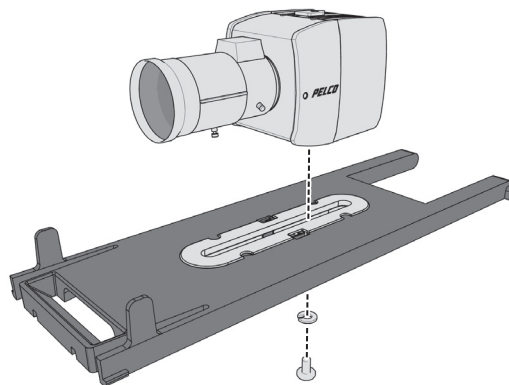

Figure 4. Attaching the Camera to the Sled
13. Attach the camera to the sled with the 1/4-20 x 3/8-inch Phillips screw (supplied) and the 1/4-inch split lock washer/washer. (Refer to Figure 4.) Align the front of the lens with the front edge of the sled. Tighten the screw, and then reinsert the sled.